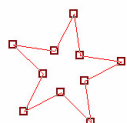

Figure 142
- To display all joints and points, use the **Move Point** tool to drag a box around the object. Viewing all joints and points is very helpful when making precise adjustments. See figure 142.